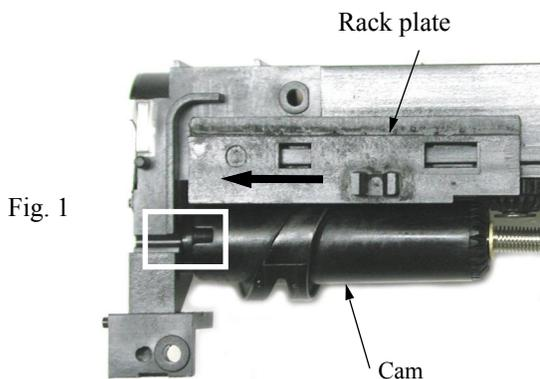

Fig. 1
- The cam groove should be in the position marked white square shown in Figure 1.